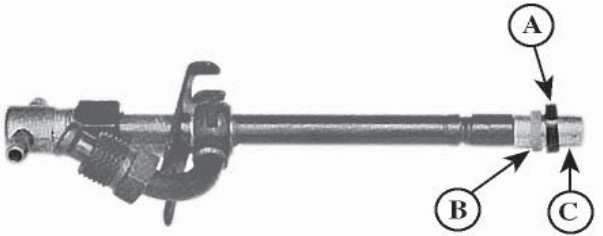

Figure 19
- b. Position a new carbon stop seal (Figure 19-B) on pilot tool. Use a new seal washer (Figure 19-A) to help slide the carbon seal into place until it seats in its groove on nozzle body.